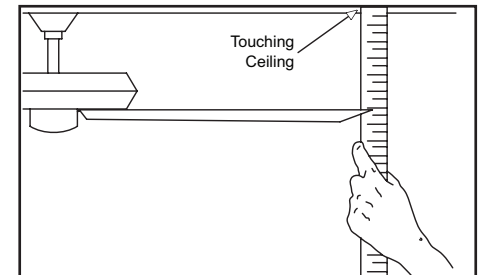

Figure 19
2. Most fan wobble problems are caused when blade levels are unequal. Check this level by selecting a point on the ceiling above the tip of one of the blades. Measure this level by selecting a point on the ceiling above the tip of one of the blades. Measure from a point on the center of each blade to the point on the ceiling. Measure this distance as shown in Figure 19. Rotate the fan until the next blade is positioned for measurement. Repeat for each blade. Measurements deviation should be within 1/8". Run the fan for 10 minutes.